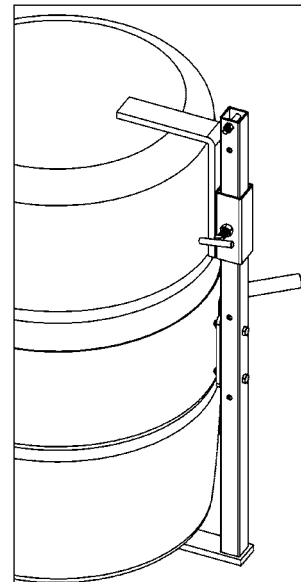

Figure 2.1
- The **Bracket Assembly** (Part # 4556M-P) is **required** to handle a plastic drum without a top rim (see figure 2.1). It is also recommended to more securely handle a fiber drum. You can use the Bracket Assembly with a 55-gallon plastic, steel or fiber drum. The brace at top and bottom of the drum prevent it from slipping lengthways through the drum holder. It adjusts for a drum 31" to 39" tall.